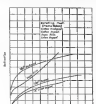

FIG. 11. DESCRIPTION OF CENTER POINT OF FABRIC WHEN SUBJECTED TO AIR PRESSURE
**Bursting Test.** The curves, Fig. 11, represent the pressure-deflection properties of the center point of the fabric when subjected to air pressure, as previously described. The deflection at any load of the fabric subjected is higher than that of the dope film. The deflection of the dope film is less than the deflection of either the fabric or the film. This further substantiates the theory that tension is produced by the dope contracting the yarn in three unequal conditions, and that in the standard fabric the elastic limit of the dope is not exceeded. It will be observed that the nylon fabric is capable of resisting more pressure than the linen, and it will have, therefore, a higher factor of safety. The fabric tension is practically the same as that of the linen.